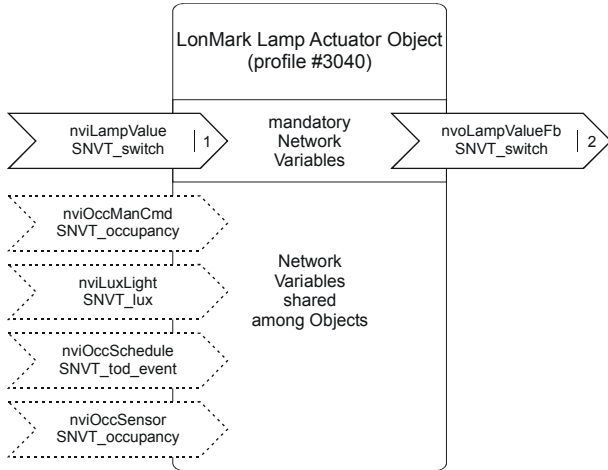

Fig. 4. Lamp Actuator Object
- four lamp actuator objects (#3040) (see Fig. 4)